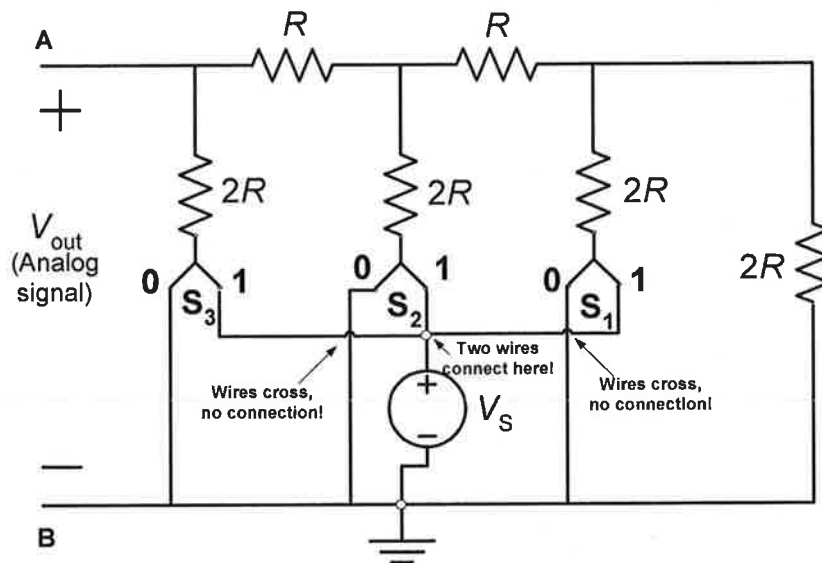
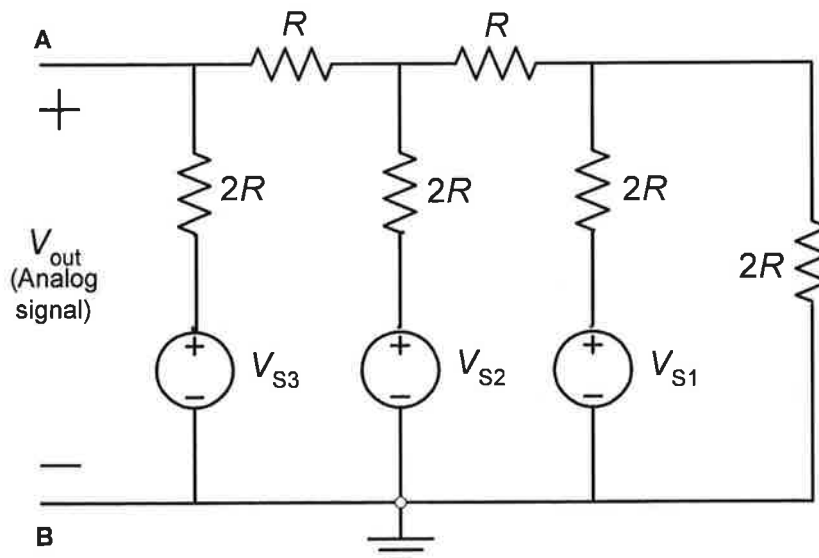

Figure 1. 3-bit binary to decimal  $R$ - $2R$  ladder network.
Figure 2. Equivalent circuit for the  $R$ - $2R$  ladder network shown in Figure 1.
A simple passive DAC circuit can be constructed with a network of resistors, usually a ladder consisting of two sizes of resistors, one twice the other, as shown in Fig. 1. The R-2R ladder network seen in Fig. 1 is an elegant implementation of a DAC. In this experiment, the students will construct this 3-bit DAC circuit consisting of only resistors, switches, and a single power supply.
For the R-2R ladder network shown in Fig. 1, the switch positions  $S_3$ ,  $S_2$ , and  $S_1$  together represent a 3-digit binary number  $N$  given by  $N=(S_3S_2S_1)_2$ . Note that each switch can either be in position 0 (when connected to ground) or 1 (when connected to the power supply voltage  $V_S$ ). Since there are  $2^3=8$  different combinations, the 3-bit binary number  $N$  can take any value between  $N=(000)_2=(0)_{10}$  to  $N=(111)_2=(7)_{10}$ . The R-2R ladder network shown in Fig. 1 is designed to convert the 3-bit binary (digital) number  $N=(S_3S_2S_1)_2$  into its equivalent decimal (analog) number  $N=(\bullet)_{10}$ . The output voltage  $V_{out}=(\bullet)_{10}$  measured between terminals A and B is in fact the decimal equivalent of the binary number  $N=(S_3S_2S_1)_2$  set by the positions of the three switches. For example, if the switch positions are  $S_3=1$ ,  $S_2=0$ , and  $S_1=1$  which represents the binary number  $N=(101)_2$ , then, the decimal equivalent of this number should come out to be  $V_{out}=5$ .
**Pre-lab Assignment 1:** For the circuit shown in Fig. 1, find  $V_{out}$  in terms of  $V_S$  and  $R$  for each combination of the three switches. You will find 8 different expressions for  $V_{out}$ . Based on these expressions, you will be able to determine the appropriate value of the power supply voltage  $V_S$  needed to realize the goal of this design. (Hint: Transform the  $R$ - $2R$  ladder network shown in Fig. 1 to the equivalent circuit shown in Fig. 2. Note that the power supply voltages  $V_{S1}$ ,  $V_{S2}$ , and  $V_{S3}$  can take a value equal to  $V_S$  or 0 depending on the position of the switches  $S_1$ ,  $S_2$ , and  $S_3$  in Fig. 1. Using this equivalent circuit and source transformation (or superposition principle), find the general expression for the output voltage  $V_{out}$  in terms of  $V_{S1}$ ,  $V_{S2}$ ,  $V_{S3}$ , and  $R$ . Then, use the general  $V_{out}$  expression to find the output voltage for each case.)
**Pre-lab Assignment 2:** Can you redesign the circuit shown in Fig. 1 to be able to convert any 4-bit binary number into its decimal equivalent? If so, how many additional elements would you need and what will be the new value of the power supply voltage  $V_S$ ?
**Lab Experiment:** Select a value for the resistor  $R$  and construct the DAC circuit shown in Fig. 1. Set the power supply voltage  $V_S$  to the value you calculated in your pre-lab work. Measure and record the actual values of the resistors used in your circuit. Measure and record the value of the output voltage  $V_{out}$  in each one of the eight different switch combinations. Present your values in a table similar to Table 1 shown below.